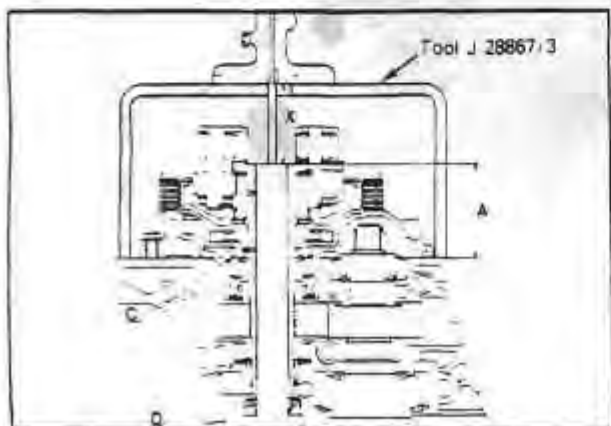

Fig. 73 PLANETARY CARRIER TO FINAL DRIVE CASE MEASUREMENT
Use a depth gauge to measure the distance from the top face of the special tool to the top of the planetary carrier shaft (with thrust washer removed). *Fig. 73*
- f. Subtract the measurement from 120 mm (4.724 in.) to obtain dimension "A". *Fig. 73*
- The final dimension should be as near as possible to 73.6 mm (2.898 in.). If it is not close to 73.6 mm, the thickness of the shim pack under the bearing race C *Fig. 73* in the planetary housing will have to be increased or decreased.